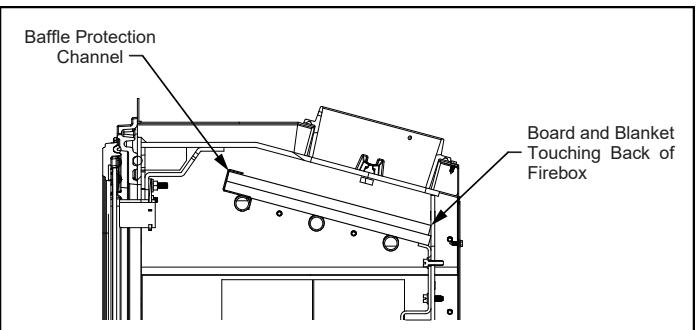

Figure 13.1
1. Confirm the baffle and ceramic blanket are correctly positioned. They should be touching back of firebox and secured into Baffle Protection Channel (**Figure 13.1**).